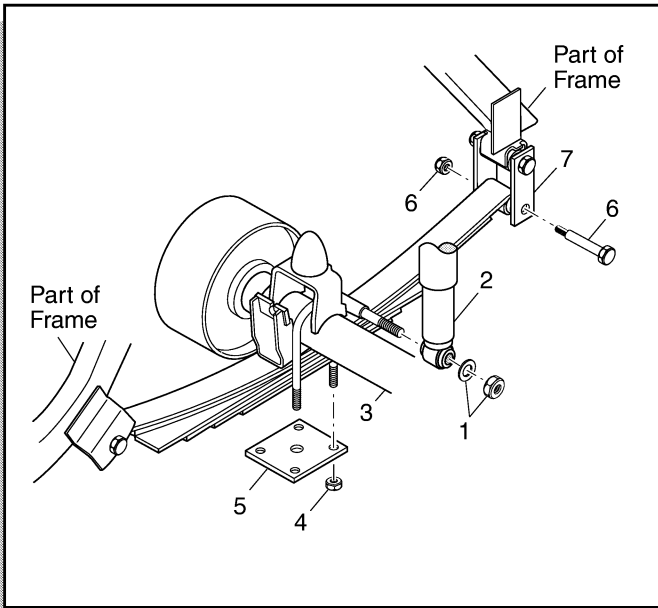

Fig. 3 Rear Axle Removal
| Fig. 3 Rear Axle Removal.....                  | N - 2 |
Remove the four wires connected to the motor. Remove the hardware (1) securing the bottom of the shock absorber (2) to the axle and compress the shock absorber (Ref Fig. 3 on page N-2). Being careful to prevent the axle assembly (3) from rotating, remove the 'U' bolt hardware (4) and spring plate (5). Remove hardware (6) securing the springs (7) to the shackles at the rear of the vehicle. Allow rear of springs to rest on floor.